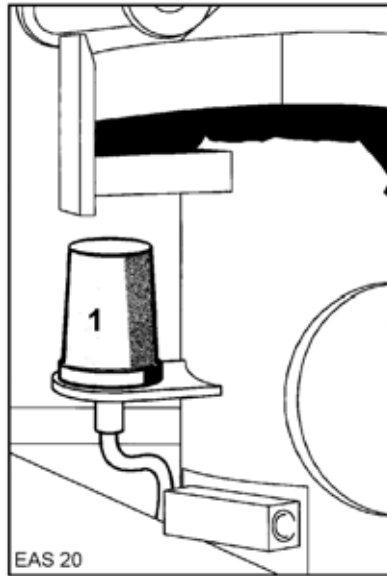

Fig. 422 Rotating beacon.
- The rotating beacon (1) (**Fig. 422**) lights up on the slewing gear of the placing boom.